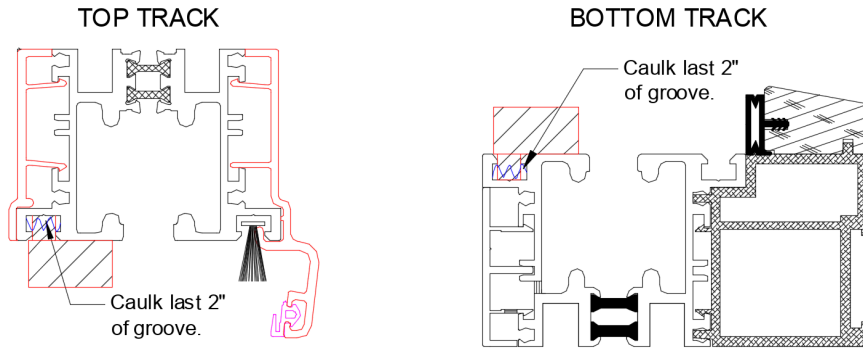

FIG 3.
- d) Caulk the last 2" of the outside groove & 2" from ends of track where jamb will sit to ensure no air infiltration of both top and bottom tracks before inserting jambs, as shown in FIG 3.
- e) Each jamb has an insert top and bottom to ensure panels are installed plum and square with tracks and are placed to the exterior edge. (Shown in red FIG 3.)